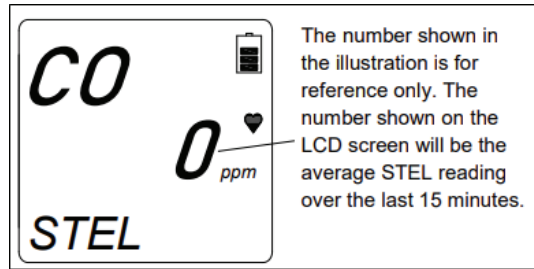

Figure 20
**5.2.7** When the fresh-air baseline has been set, the LCD screen displays "Adj", the COVX beeps once, and the LCD screen displays "RELEASE", a prompt to release the AIR button. After releasing the AIR button, the LCD screen displays 0 ppm, as shown in Figure 20.